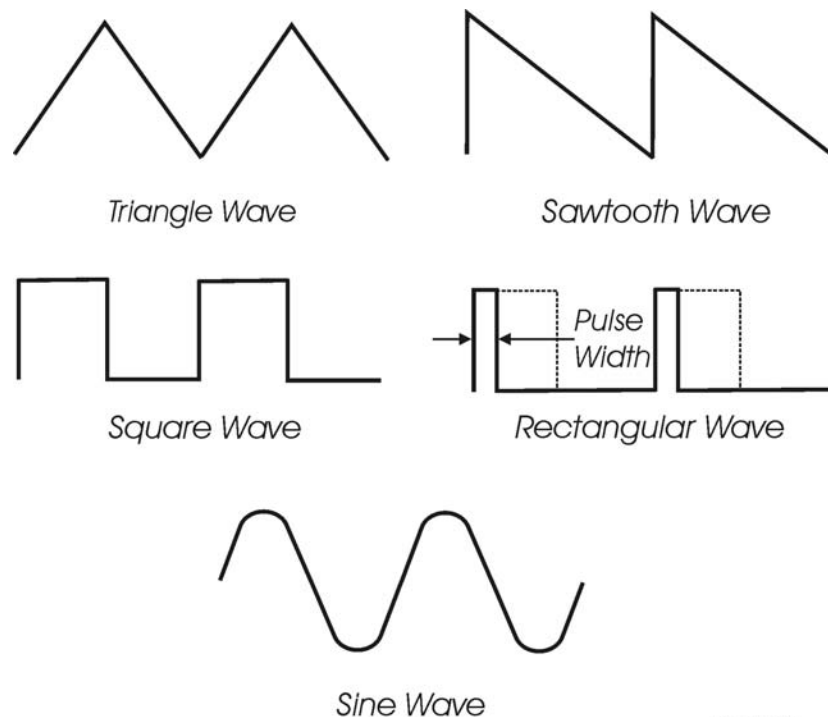

figure 6
**Waveform:** The shape of an oscillator’s vibration. This determines its timbre. Commonly used waveforms in subtractive synthesis are sawtooth, triangle, square, or rectangular. Different waveforms have different timbres. A sawtooth has the greatest number of harmonics, and sounds bright and buzzy. A square wave has only odd harmonics, and sounds bright, but hollow, like a clarinet. A rectangular wave can vary in shape, but typically has a bright but thin sound, and a triangle wave’s harmonics are so low in amplitude that it sounds muted and flutelike (figure 6).